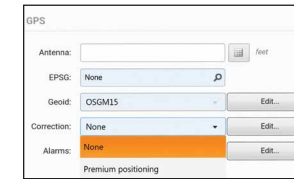

Figure 1a. Locator searching for satellites
1. Ensure the locator has access to GNSS satellites (see figure 1a and 1b).